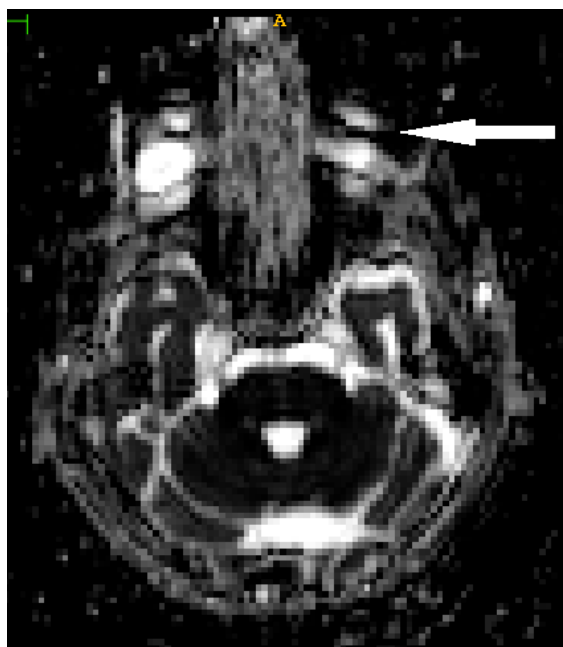

Figure 4.5
- Possible motion artifacts such as the one displayed in Figure 4.5 are often apparent in inferior axial slices up through the eye area. Like all visually detected artifacts, these are noted in visual QC notes.